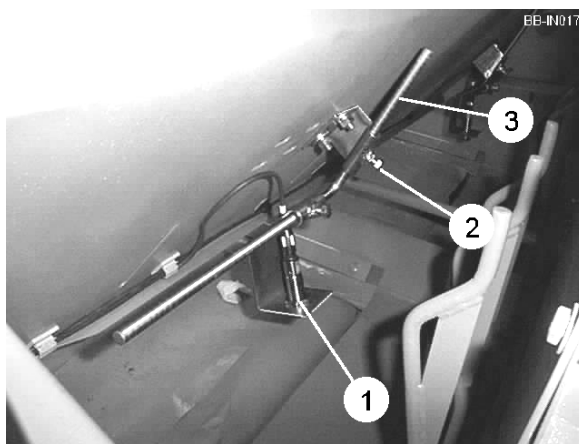

Fig 10
The feed belt motors are actuated by the sensors (item 1, figure 10) situated between the belts and the feeding pockets. When the quantity of potatoes in one of the feeding pockets is so small that the distance between the sensor and the potatoes is more than 8cm (or the feeding pocket is empty), the sensor gives the relay an impulse. This impulse closes the circuit causing the relevant motor to engage and drive the feed belt to transport the potatoes to the feeding pocket. When the quantity of potatoes in the feeding pocket increases such that the distance between the potatoes and the sensor is approximately 8cm, the sensor gives the relay a new impulse which then causes the motor to disengage and so stop the drive to the feed belt. The feed belt will remain at standstill until the quantity of potatoes in the feeding pocket is small enough that the process is repeated. This way the potato layer in the feeding pocket is always kept thin and the feeding cups do not damage the potatoes.
Depending on the size of potatoes being planted, it may be necessary to alter the height of the sensor (item 1, figure 10) in relation to the feeding pocket. The sensor should be positioned higher for larger potatoes and lower for smaller potatoes. To adjust the height of the sensor, loosen the set screw (item 2, figure 10) and slide the support arm (item 3, figure 10) to the required position and re-tighten.